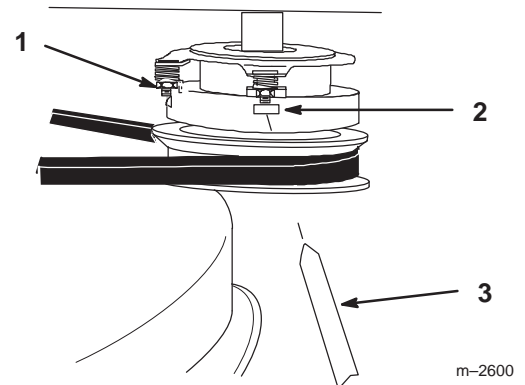

Figure 44
1. To adjust clutch, tighten or loosen lock nuts on flange studs (Fig. 44).
2. Check adjustment by inserting feeler gauge through slots next to studs (Fig. 44).